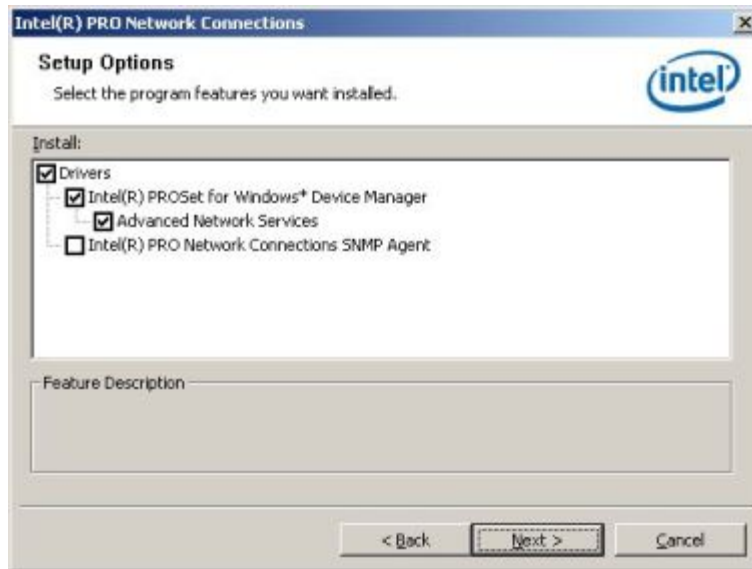

Figure 7-26: Intel® 82566 Driver Setup Options
Step 17: The **Setup Options** screen in **Figure 7-26** appears next.
Step 18: Select the required installation configuration in **Figure 7-26** and click **NEXT** to continue.